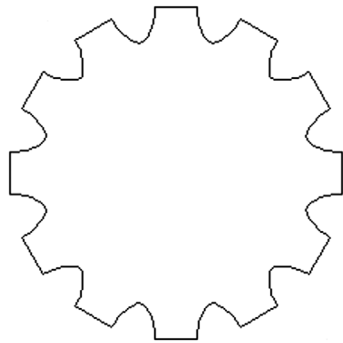

FIGURE 24.29 Drill bit, Step 1.
- Step 1.** Draw a circle and one tooth, similar to what is found on a gear. Then, array it 12 times around the circle. Finally, do a little bit of cleanup trimming and edit the entire structure. This is your basic profile, as seen in Fig. 24.29. You need not draw the exact same thing; something close is just fine.